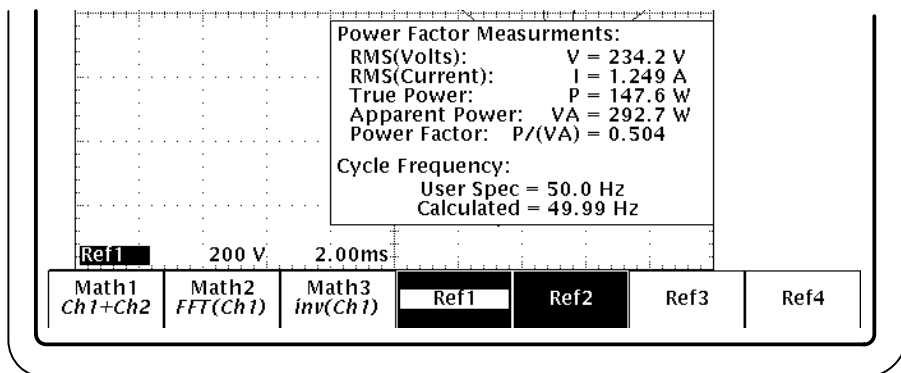

Figure 24: User-defined frequency results for the Power Factor lesson
- Wait for the measurements to complete, and the results will display as shown in Figure 24. The last two lines in the results show the user-defined signal frequency and the calculated frequency.